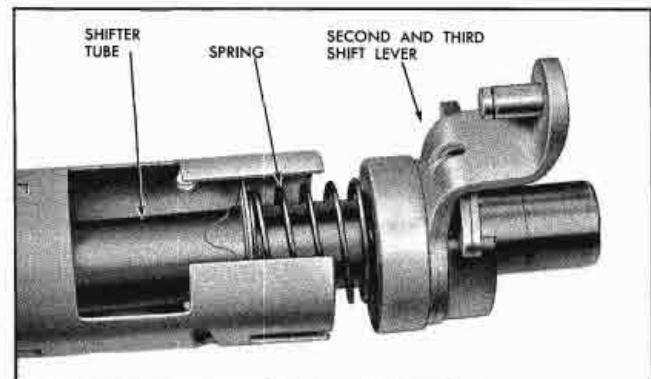

Fig. 7-24 2nd and 3rd Shift Lever Assembly
22. Using soft hammer, tap upper end of shifter tube until tube, with second-third shift lever assembly and upper bearing, is free, and remove entire assembly from lower end of steering column (Fig. 7-24).